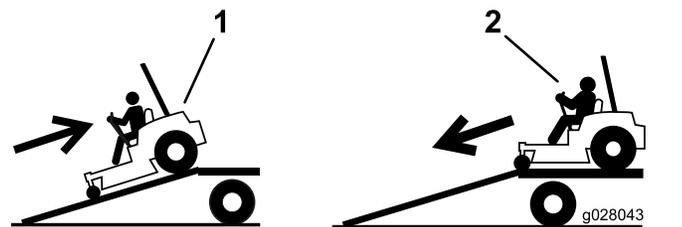

Figure 50
- Drive the machine forward down the ramp (Figure 50).